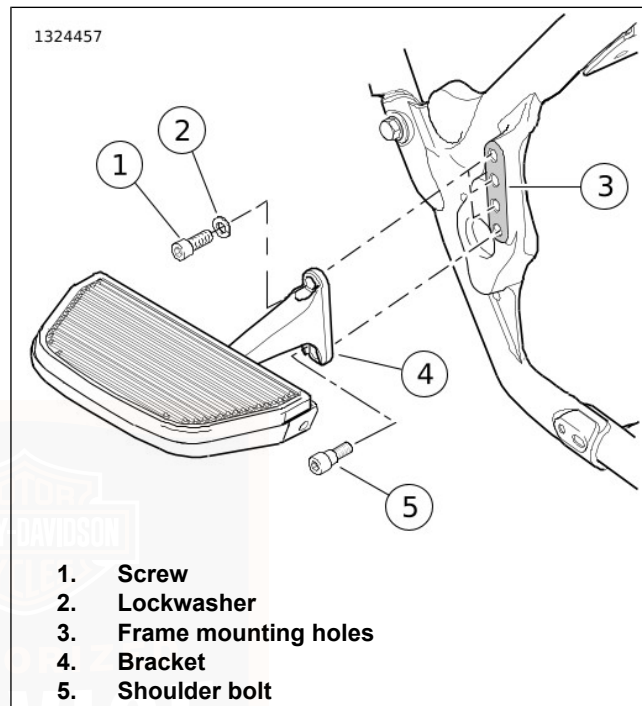
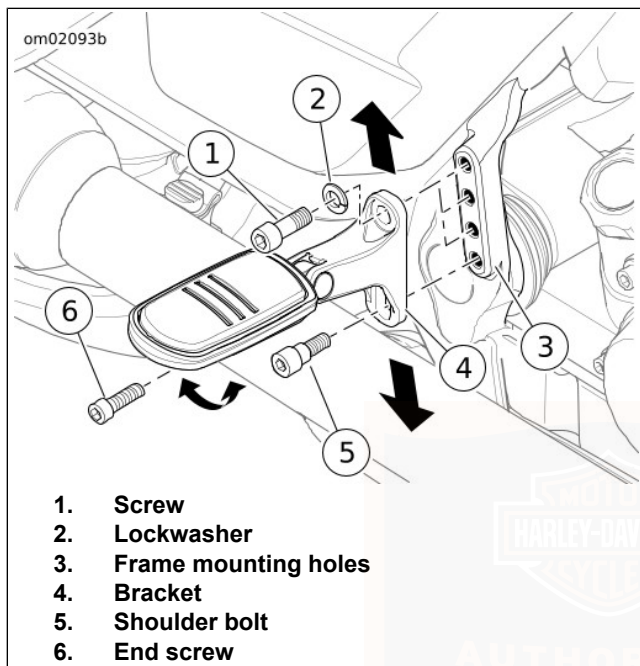

Figure 50. Passenger Footboard
Figure 51. Passenger Footrest (typical)
See Figure 50 and Figure 51.
1. See Figure 51. Remove the end screw (6).